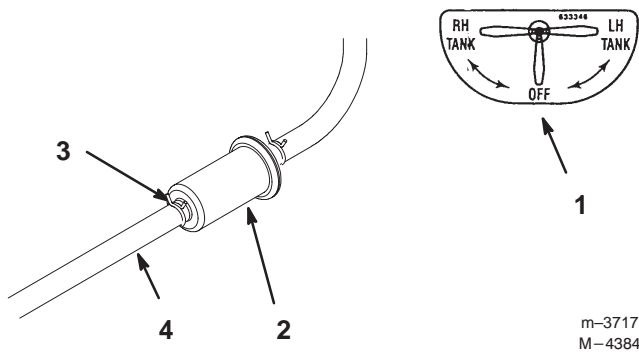

Figure 33
6. Install a new filter and move the hose clamps close to the filter (Fig. 33).
2. Close fuel shut-off valve (Fig. 33).
3. Loosen the hose clamp at the fuel filter and slide it up the fuel line away from the fuel filter (Fig. 33).
4. Pull the fuel line off fuel filter (Fig. 33). Open fuel shut-off valve and allow gasoline to drain into a gas can or drain pan.
5. Install the fuel line onto the fuel filter. Slide the hose clamp close to the fuel filter to secure the fuel line (Fig. 33).